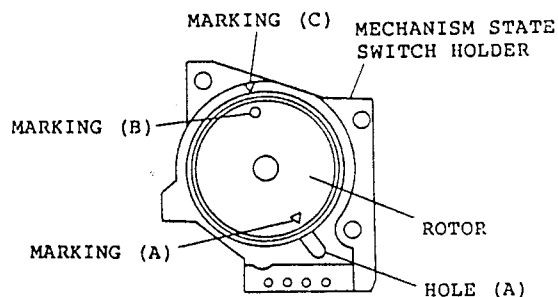

Fig. 3-4
2. MECHANISM STATE SWITCH PHASE MATCHING IN ASSEMBLY (Figs. 3-4, 3-5)
- 1) Align hole (A) in the mechanism state switch holder and marking (A) on the rotor. (See Fig. 3-4)